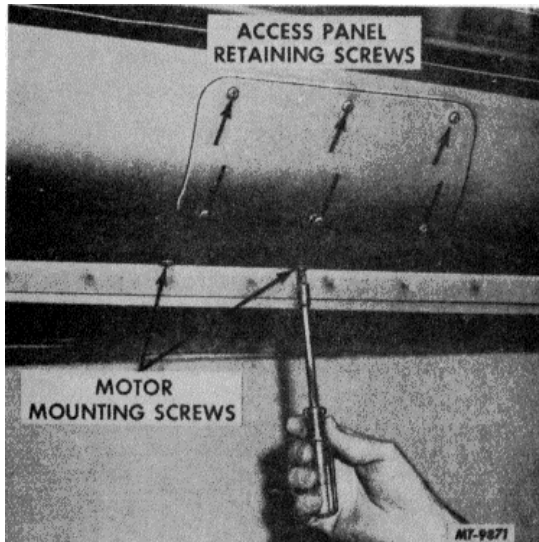

Fig. 35
1. Remove the six wiper motor access panel retaining screws, Fig. 35.
2. Remove two wiper motor mounting screws, Fig. 35.